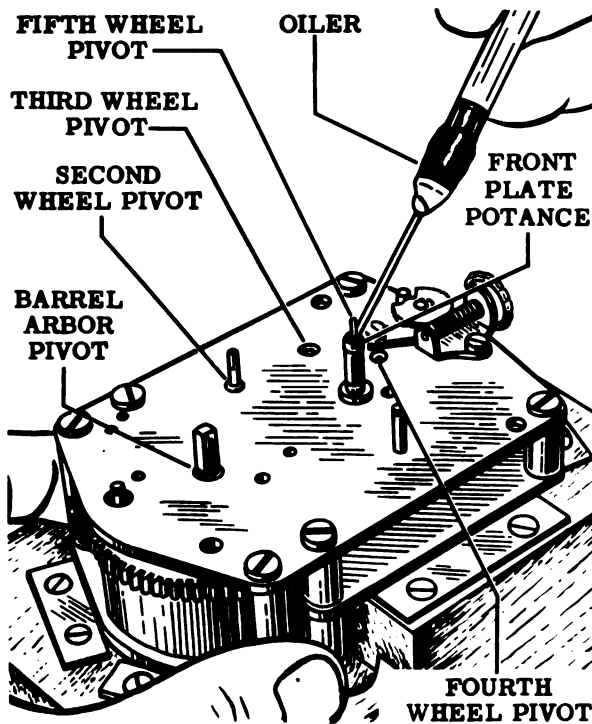

Figure 124
19. Turn the movement over so that it is dial side up on the work block. Oil the lower pivots of the barrel arbor and the second, third, fourth and fifth wheels as shown in Fig. 124. See "Timepiece Lubrication" as referenced in the Control Manual index.